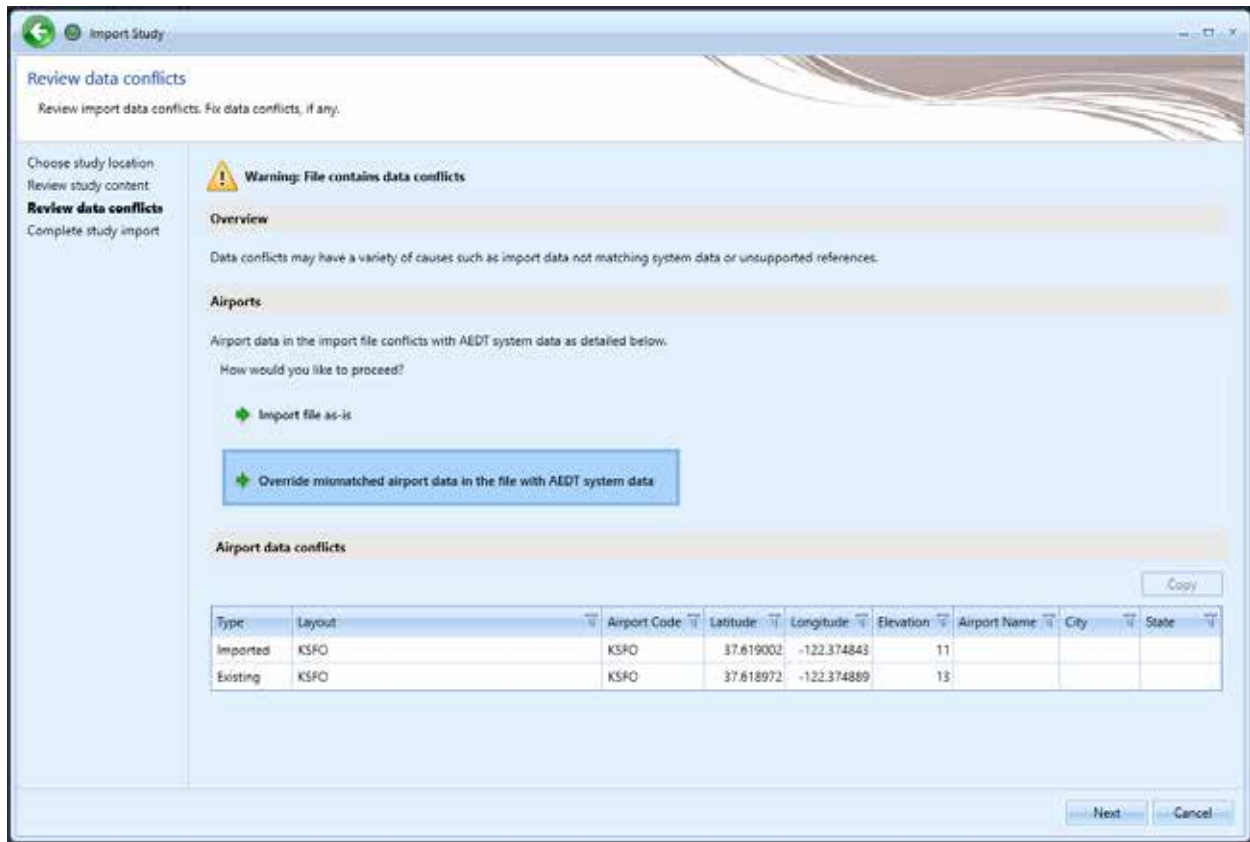

Figure 63. Review data conflicts
5. The *Review data conflicts* step displays any conflicts between study airport data and AEDT airport data (Figure 63).